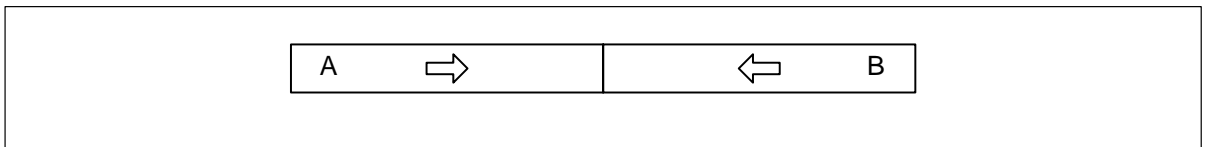

Figure 28. Two Converging Line Segments
One channel (A) carries the left half of the line or frame, and the other channel (B) carries the right half of the line or frame. Channel A scans left to right, and channel B scans right to left. Data is presented simultaneously on both channels. Figure 28 shows where the data appears in a line from the original image. PC-CamLink can support this format for pixel depths from 8-bits up to 12-bits. The IFC Software Library calls this “Two Channel Separate Tap Converging” or LNK_2CHAN_SEP_TAP_CONVERGE.